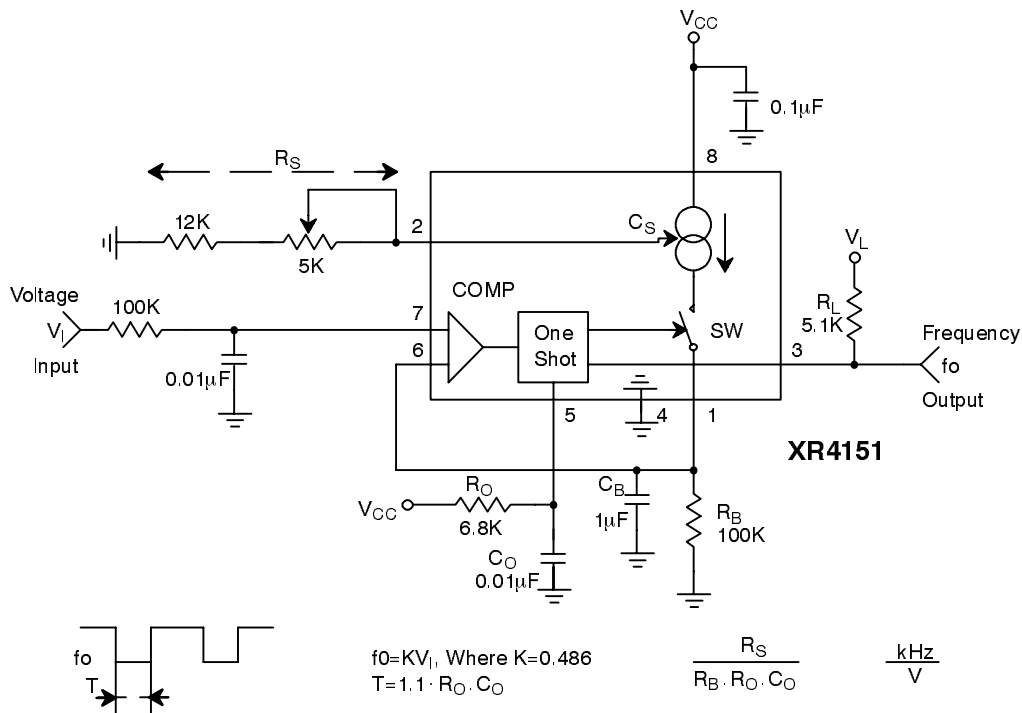
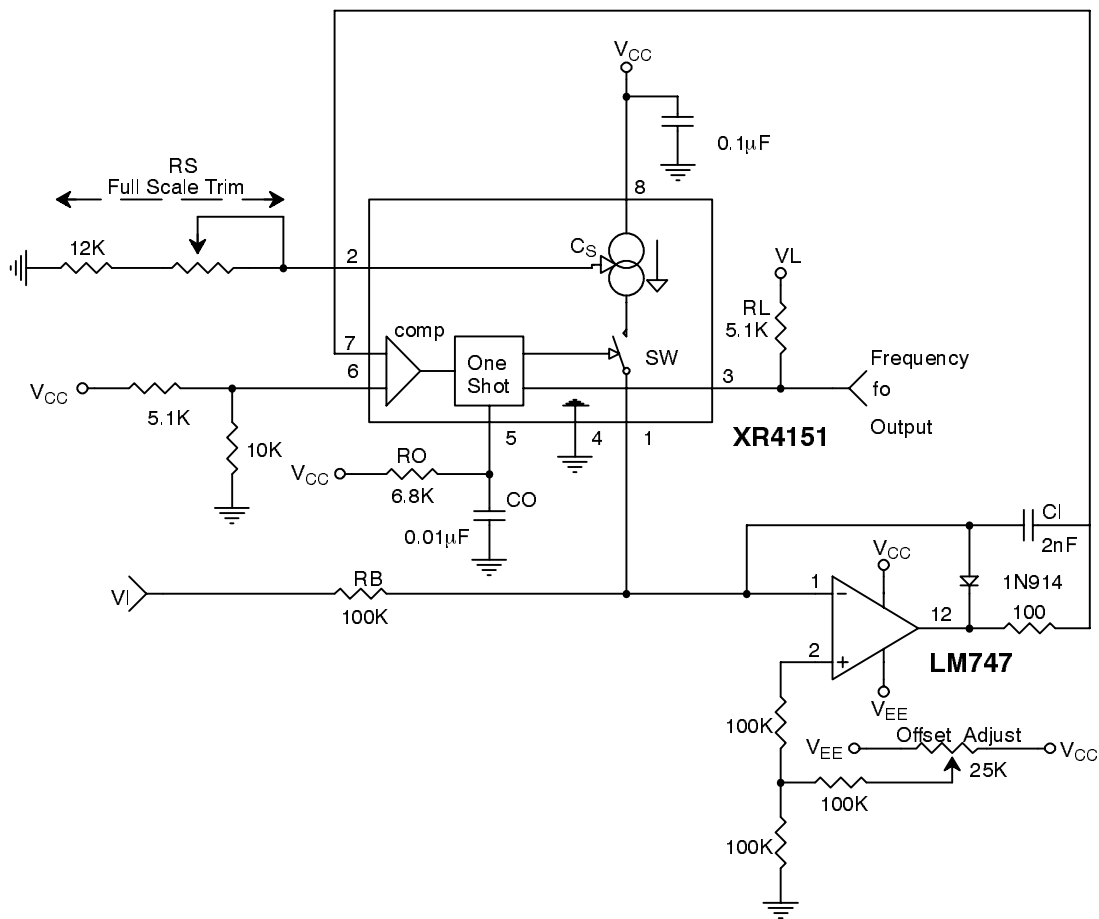

Figure 2. Voltage-to-Frequency Converter
Figure 3. Precision Voltage to Frequency Converter
In this application, the XR4151 functions as a stand alone voltage-to-frequency converter operating on a single positive power supply. Refer to the functional block diagram and *Figure 2*, the circuit connection for single supply voltage-to-frequency conversion. The XR-4151 contains a voltage comparator, a one-shot, and
Figure 2 shows the simplest type of VFC that can be made with the XR4151. The input voltage range is from 0 to +10V, and the output frequency is from 0 to 10kHz. The full scale frequency can be tuned by adjusting R_S , the output current set resistor. This circuit has the advantage of being simple and low in cost, but it suffers from inaccuracy due to a number of error sources. Linearity error is typically 1%. A frequency offset will also be
introduced by the input comparator offset voltage. Also, response time for this circuit is limited by the passive integration network $R_B C_B$. For the component values shown in Figure 2, response time for a step change input from 0 to +10V will be 135msec. For applications which require fast response time and high accuracy, use the circuit of Figure 3.
In this application (*Figure 3*) the XR4151 is used with an operational amplifier integrator to provide typical linearity of 0.05% over the range of 0 to -10V. Offset is adjustable to zero. Unlike many VFC designs which lose linearity below 10mV, this circuit retains linearity over the full range of input voltage, all the way to 0V.
The operational amplifier integrator improves linearity of this circuit over that of *Figure 2* by holding the output of the source, Pin 1, at a constant 0V. Therefore, the linearity
4. Avoid stray coupling between pins 5 and 7; it could cause false triggering. For the circuit of *Figure 2*, bypass pin 7 to ground with at least $0.01\mu\text{F}$. This is necessary for operation above 10kHz.
1. Set $R_S = 14k\Omega$ or use a 12K resistor and 5K pot as shown in the figures. (The only exception to this is *Figure 3*).
3. a) For the circuit of *Figure 2* make $C_B = 10^{-2} [1/fo]$ Farads.
4. a) For the circuit of *Figure 3* keep the values of R_B as shown and use an input attenuator to give the desired full scale input voltage.
- b) For the precision mode circuit of *Figure 3*, set $R_B = V_{IO}/100\mu A$ where V_{IO} is the full scale input voltage.